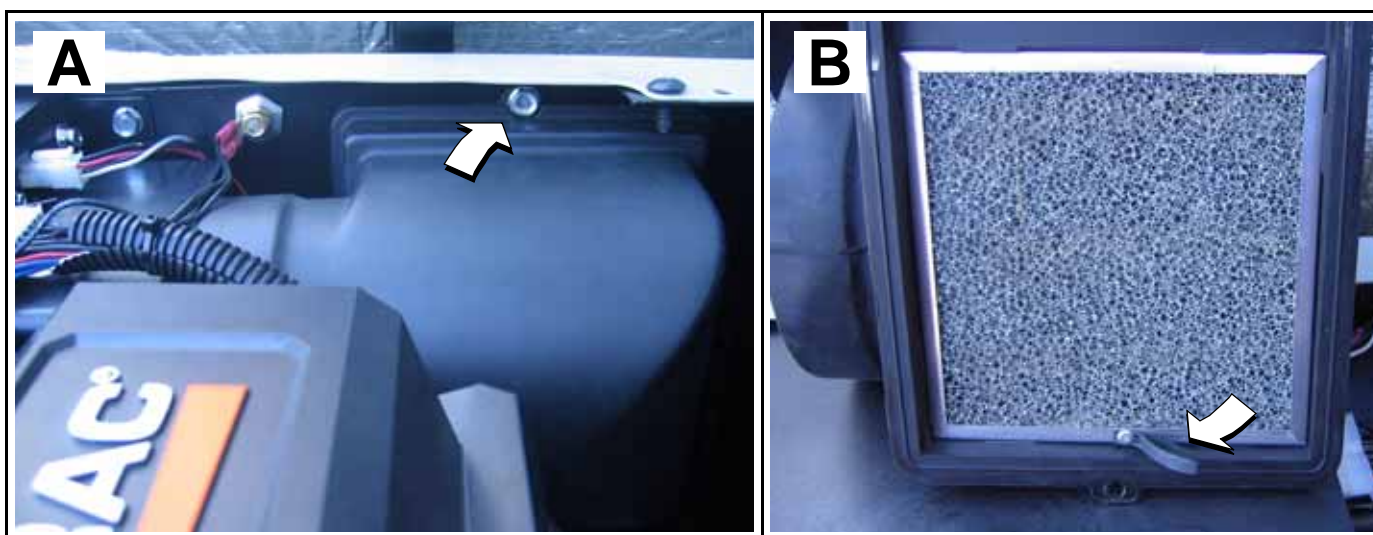

Figure 4-2. Replace AVR Filter
1. Remove screw to release AVR filter housing from back panel. See A of Figure 4-2.
3. Grasp rubber lifting strap and remove filter from filter housing. Discard filter. See B of Figure 4-2.
2. Remove screw to release AVR filter housing from back panel. Remove AVR filter housing. See A of Figure 4-2.